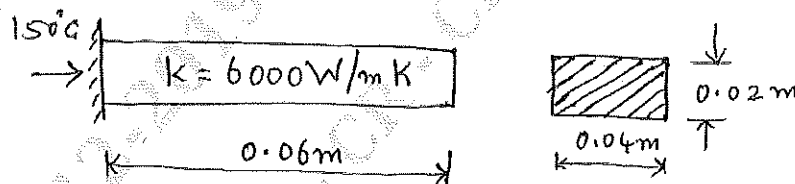

Fig. Q8 (a)
- 8 a. Determine the temperature distribution in the rectangular fin shown in Fig. Q8 (a). Neglect convection heat transfer and assume heat generated inside the fin as  $500 \text{ W/m}^3$  (08 Marks)